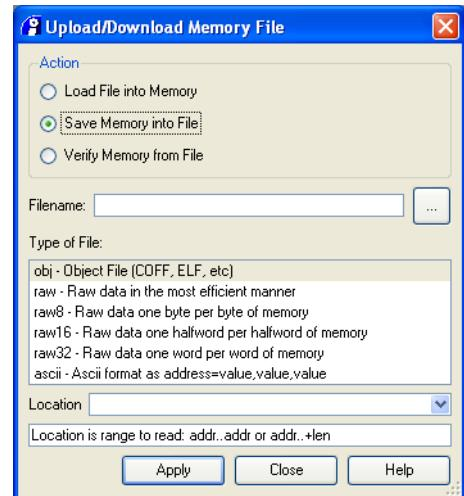

Figure 13-57 Upload/Download file from/to Memory dialog box
1. Select **Debug** → **Memory/Register Operations** → **Upload/Download Memory file...** from the Code window main menu to display the Upload/Download file from/to Memory dialog box. Figure 13-57 shows an example:
1. Select **Debug** → **Memory/Register Operations** → **Upload/Download Memory file...** from the Code window main menu to display the Upload/Download file from/to Memory dialog box. Figure 13-57 on page 13-83 shows an example.